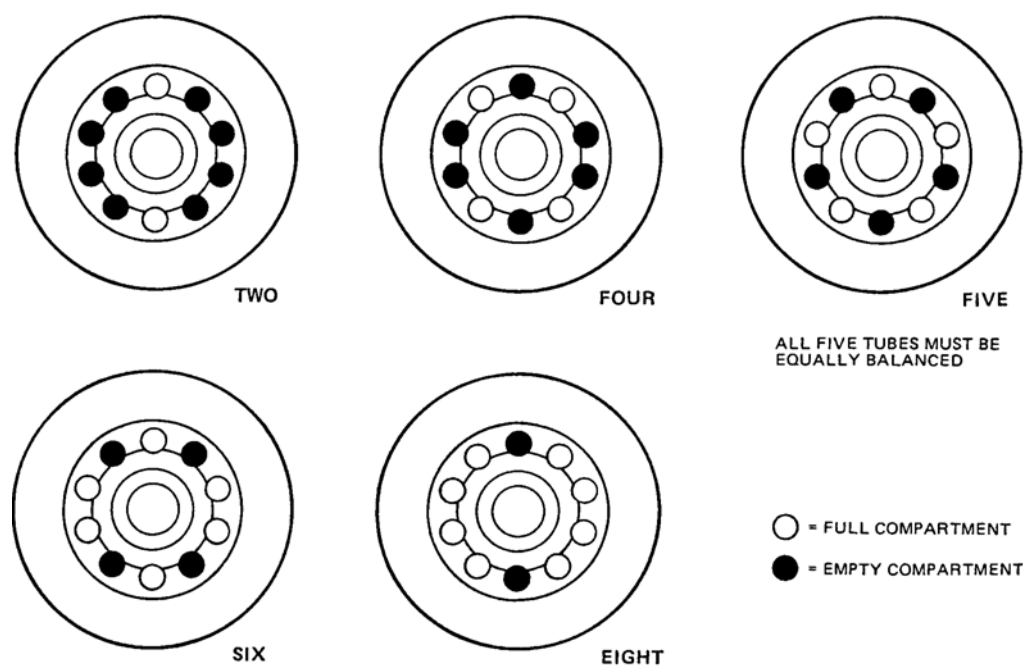

Figure 2-6. Compartment Loading
- b. when using less than a full compliment of ten tubes, the rotor can be operated at maximum allowable speed with groups of two, four, six or eight samples, provided opposing pairs are positioned as shown in figure 2-6.
- d. five samples can be run provided all five tubes are equally balanced and positioned as shown in figure 2-6.